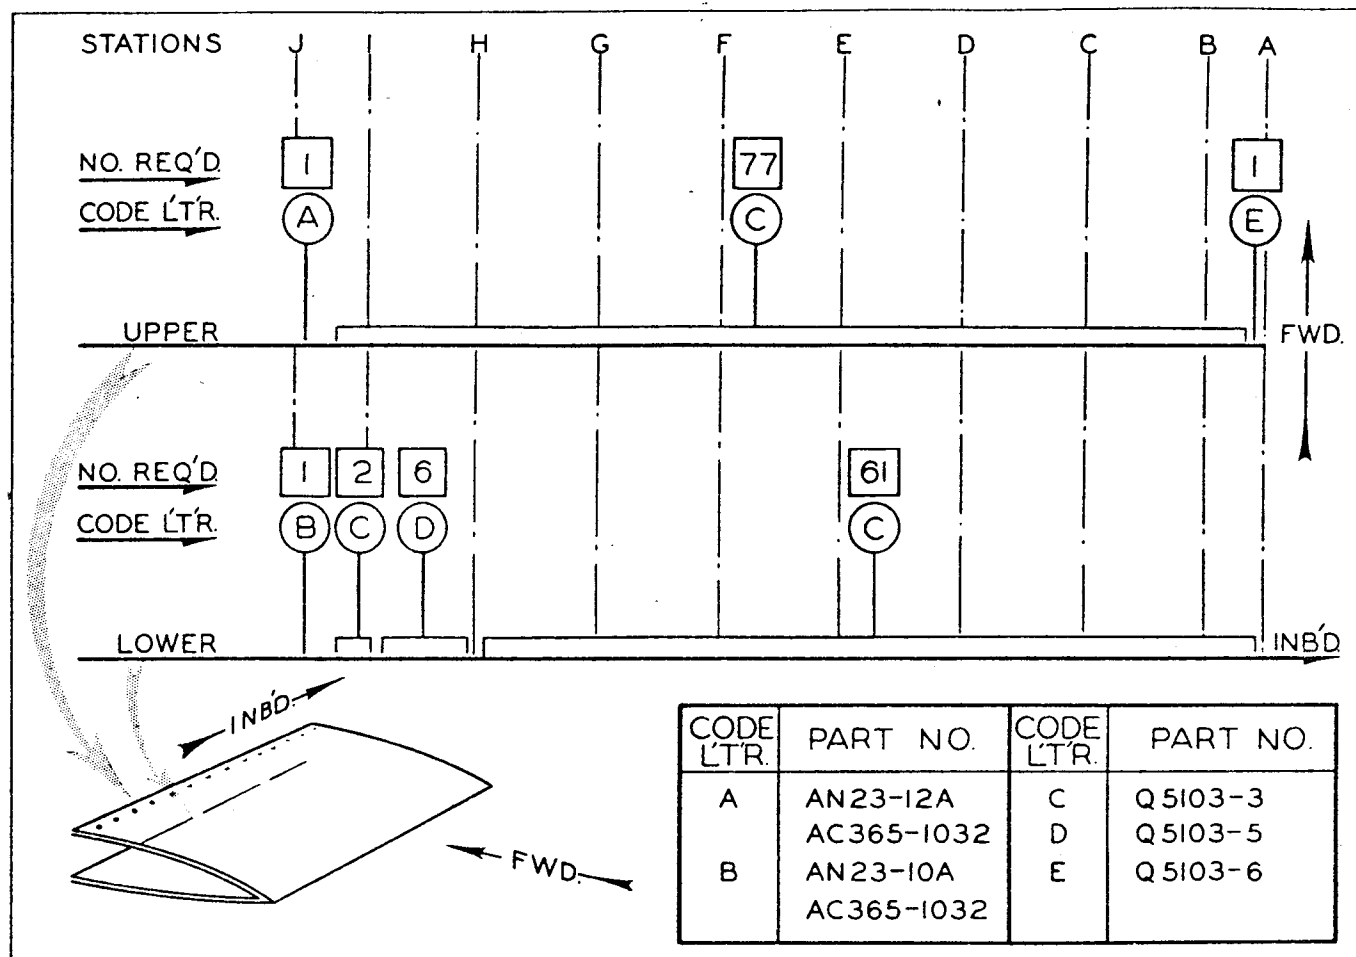
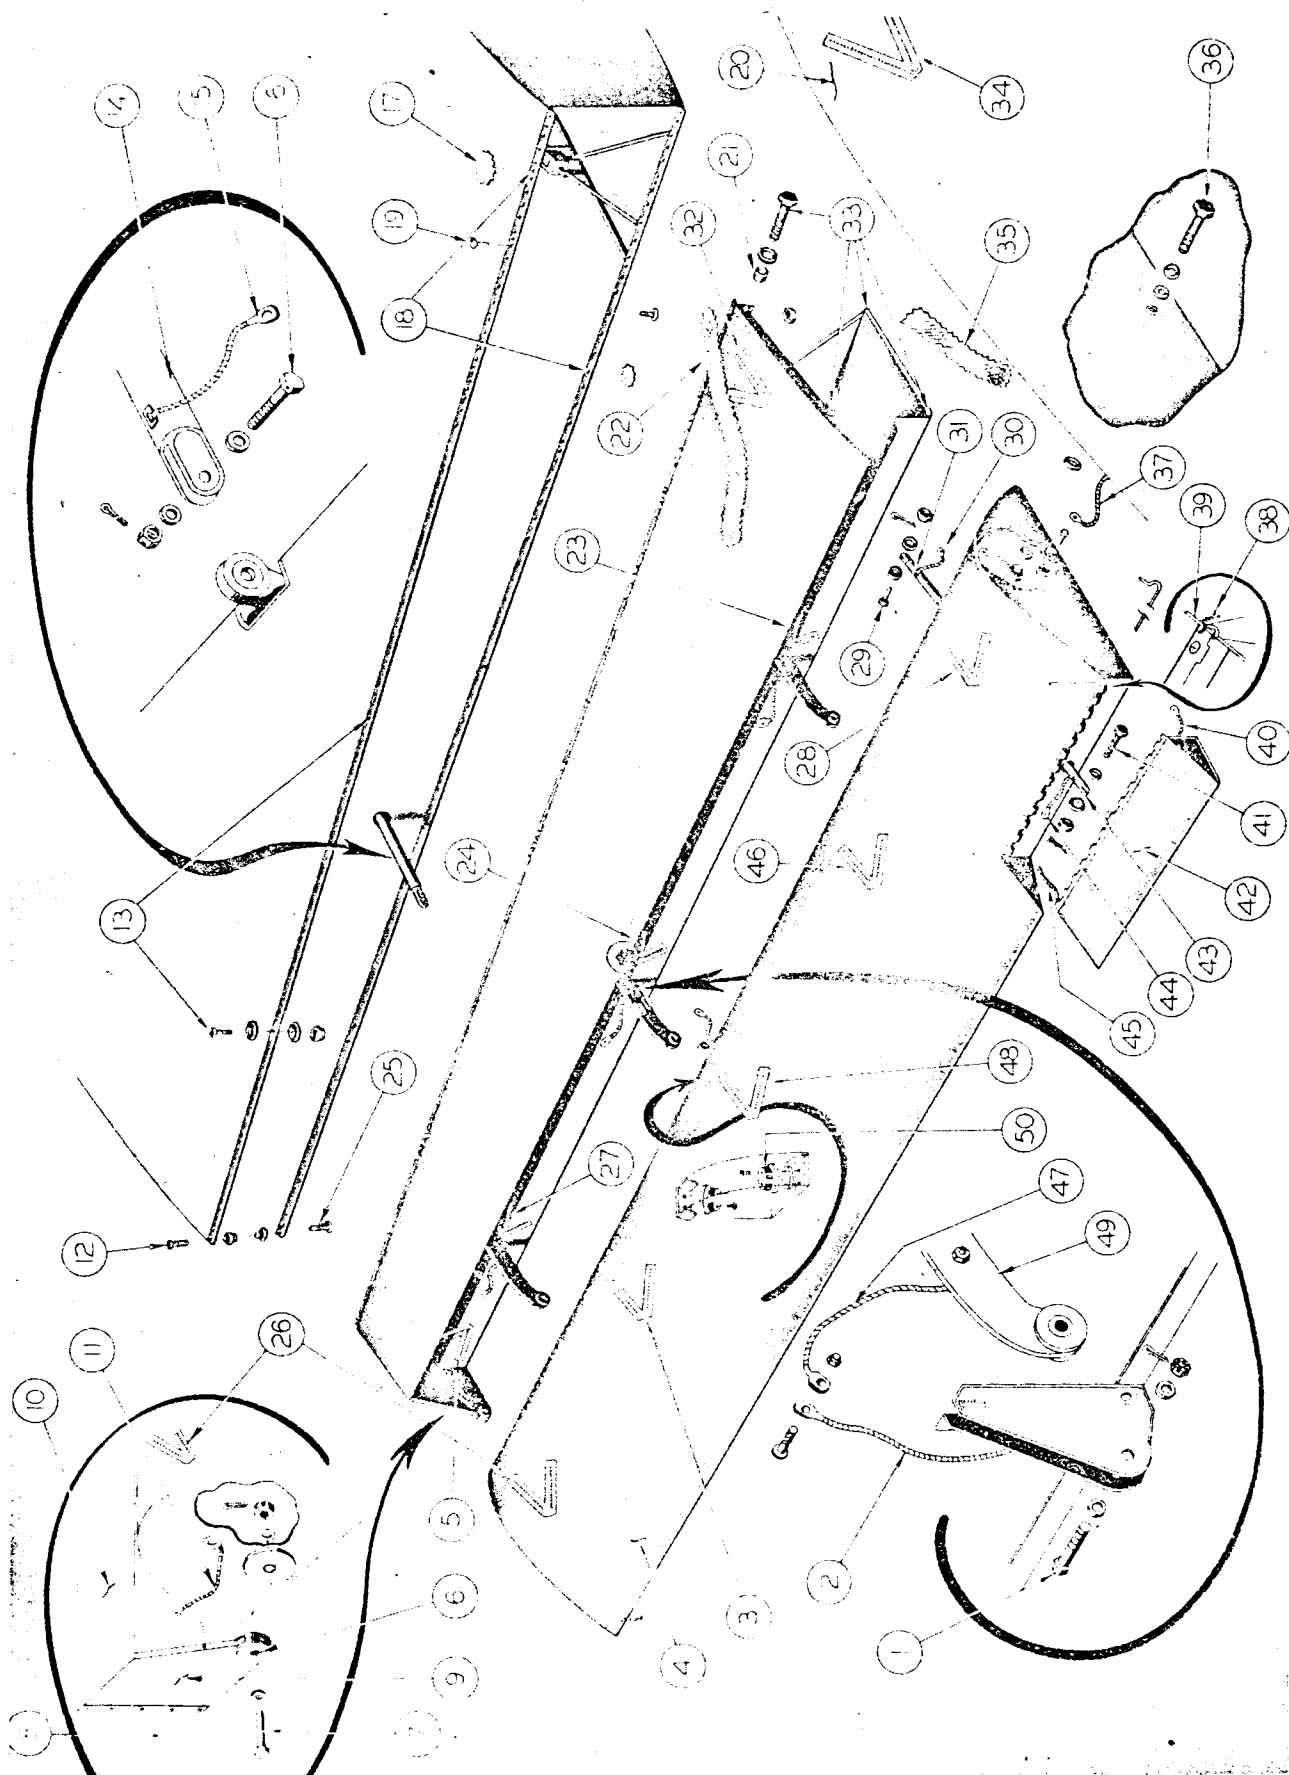

Figure 56—Outer Panel Trailing Edge Screw Diagram
Figure 57—Aileron, Aileron Cut-out, Aileron Tab
1. Remove panel splice fairing and end cap in accordance with paragraph c, (2), (a), 4, a.
2. Pull off fabric gap tapes (22) and (35), which are doped to the upper and lower surfaces over splice to aileron cut-out trailing edge on outboard end (See figure 57.) and fabric gap tape (15) across crevice between center section and outer panel trailing edge assemblies at inboard end. (See figure 52.)
3. If the aileron is in place, remove inboard aileron hinge bolt and bonding braid as outlined in paragraph c, (5), (b), 4.
4. Remove four bolts (33) between outer panel trailing edge and aileron cut-out trailing edge, making provision to catch the spacer (21) on each bolt between the surfaces. Bolts and their nuts are reached through access flaps adjacent to splice in upper fabric of each of these trailing edges. (See figure 57.)
5. Make provision to support trailing edge, then remove all attaching screws shown in figure 56.
4. Install all attaching screws shown on figure 56.
5. Withdraw all drift pins. Cover drift holes with 1/2 inch diameter discs (19) of pre-doped balloon cloth applied to surface with clear lacquer. When dry, finish patches with lacquer to match adjacent color.
6. Apply gap tapes (22) and (35) (See figure 57.) and gap strip (15) of 3/4 inch wide pink-edge, pre-acetate-doped tape, grade A fabric, Specification 49C13. Dope to trailing edge structures over gap at each end, on top and bottom surfaces. Cut 11/16 diameter hole in lower gap tape (15) in line with aft drain holes in trailing edge. Dope grommet (8) with nitrate dope and place over hole. The grommet is to be secured in place by doping patch (13) over the grommet. (See figure 52.) Finish to match adjacent color.
7. If the aileron is in place, install inboard aileron hinge bolt and connect bonding braid as outlined in paragraph c, (5), (c), 3.
8. Install panel splice fairing as outlined in paragraph c, (2), (b), 6.
(See figure 57.)